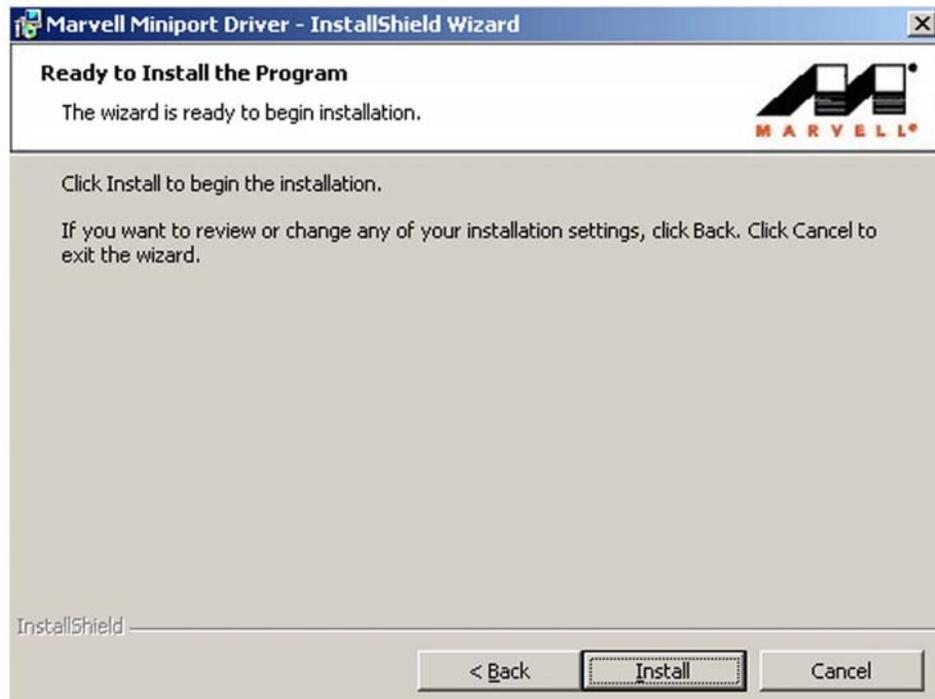
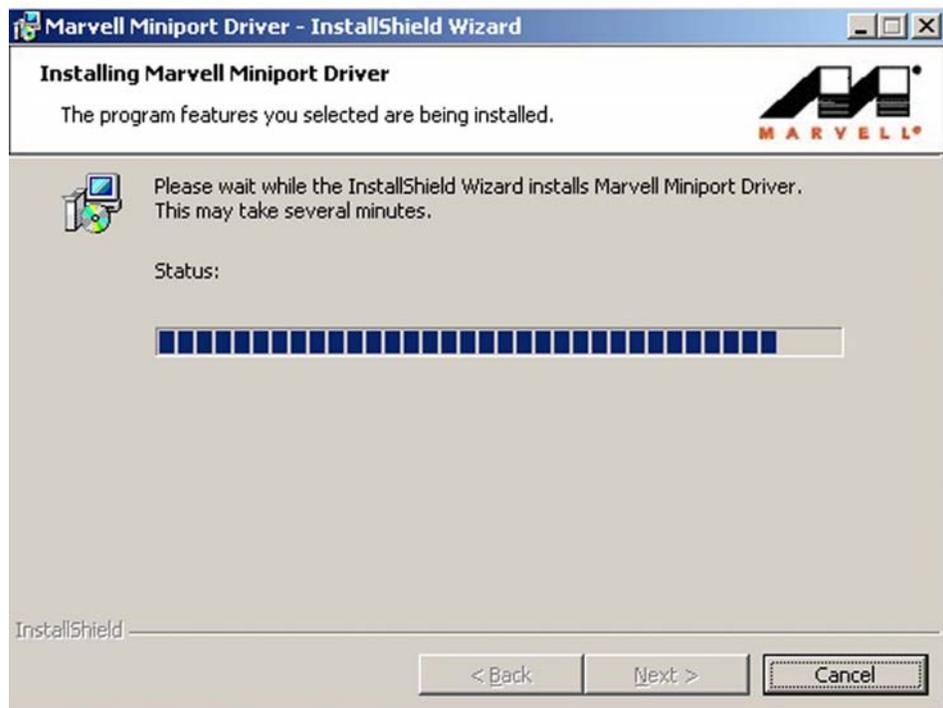

Figure 6-19: GMA Driver Installing Notice
Figure 6-20: Ethernet Driver is Installed
Step 5: After clicking the “NEXT” button in **Figure 6-18**, the driver is ready to be installed. See **Figure 6-19**.
Step 6: To continue the installation process, click “INSTALL” in **Figure 6-19** and the installation shield begins to install the Ethernet driver. See **Figure 6-20**.